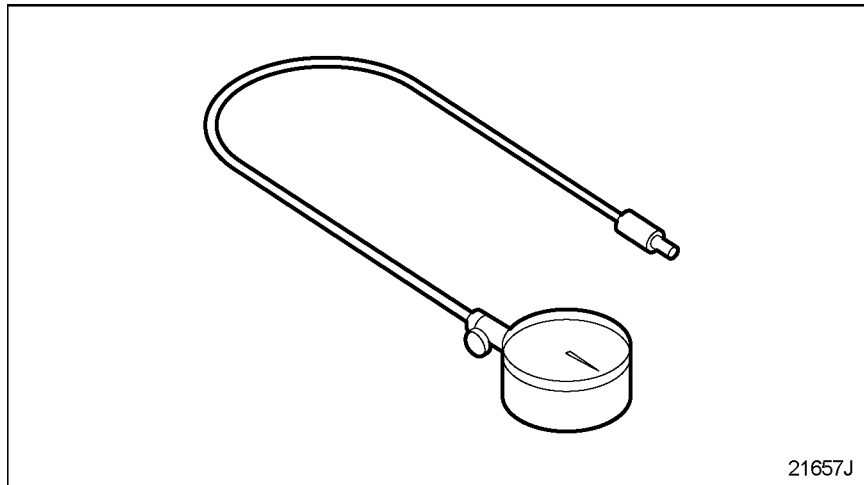

Figure 6-3 Attach Cylinder Compression Gauge J 6692-B
19. Attach cylinder compression gauge (J-6692-B) to the first adaptor. See Figure 6-3.